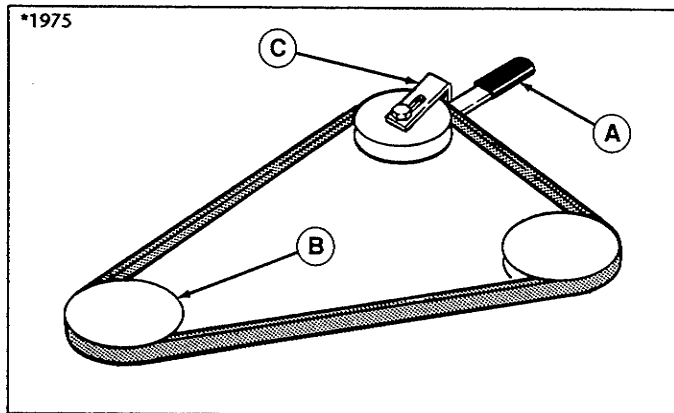
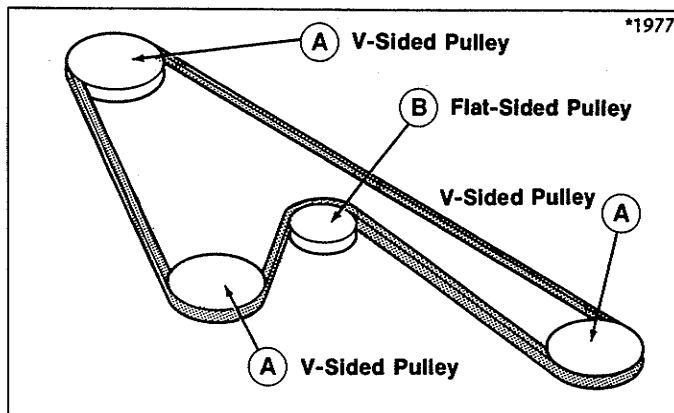

Figure 28.
**Figure 29.**
2. If mower is not removed, pull idler pulley arm (A, figure 28) towards you to relieve belt tension. Drop belt from electric clutch pulley (B).
3. Loosen nut, lockwasher and flat washer securing bracket belt stop (C).
4. Remove three capscrews securing left hand arbor cover (D, figure 29).
7. Index the bracket belt stop (C, figure 28) up against idler pulley arm (A) as shown in figure 29. Make sure there is a 1/8" gap between belt stop and pulley.